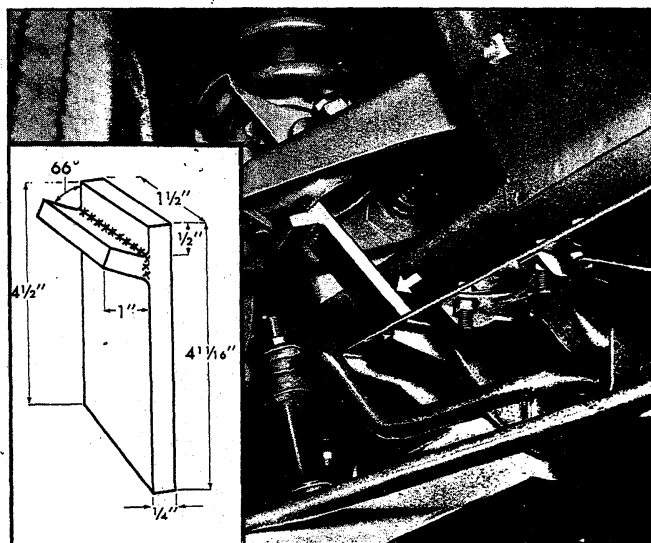

Fig. 15 - Upper Control Arm Support Installed - Chevy II
1. While vehicle weight is still on front wheels, position support between upper control arm and frame side rail (fig. 15).
NOTE: Right side control arm support bracket is illustrated in Figure 15. For left side, angled support should be welded to reverse side of plate.